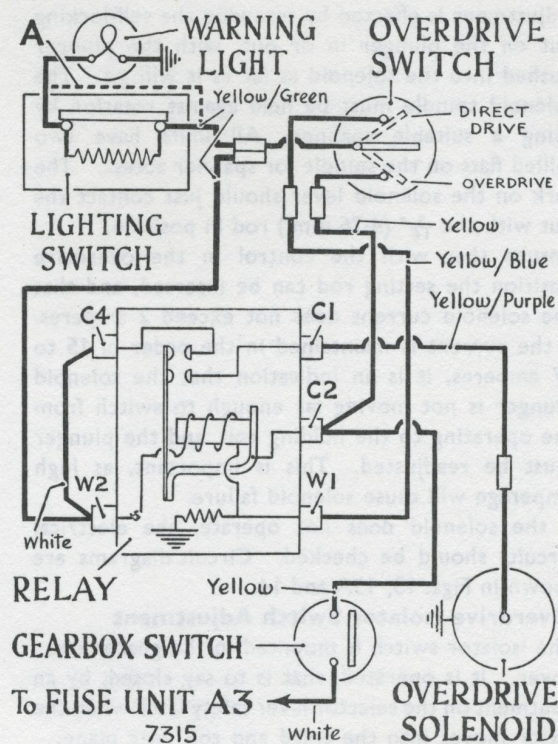

Fig. 13A. Circuit diagram Self Cancelling Switch.
**Self Cancelling Switch.** (Fig. 13A)